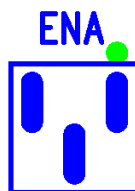

Figure 1: Enable header without any jumpers
STEP 1: This board has some additional components on the back side including a resistor divider from PVIN to Enable to GND (indicated as NR1 & NR2 in the schematic). As a result of these components, there is no need for a jumper on J3 (see Figure 1), and the component FB1 (to the left of AVIN test point TP28) should not be populated. Please contact Altera Power Applications support if your board does not have these components added on the back side, or if FB1 is still populated.